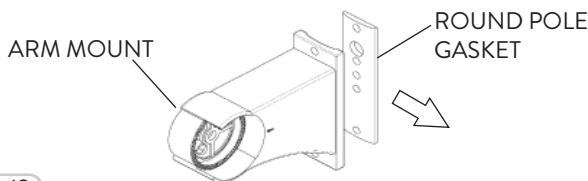

FIG. 12
- 3** If the FFHL fixture is being installed to a Square Pole, remove the Round Pole Gasket (Fig. 12).